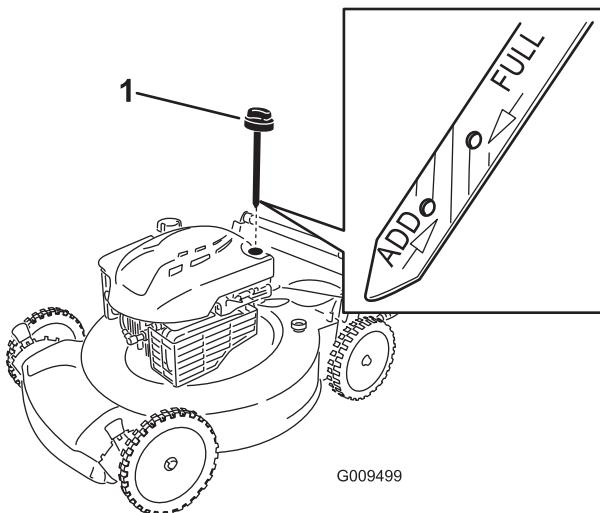

Figure 25
3. Remove the dipstick (Figure 25).
- Read the oil level on the dipstick (Figure 25).